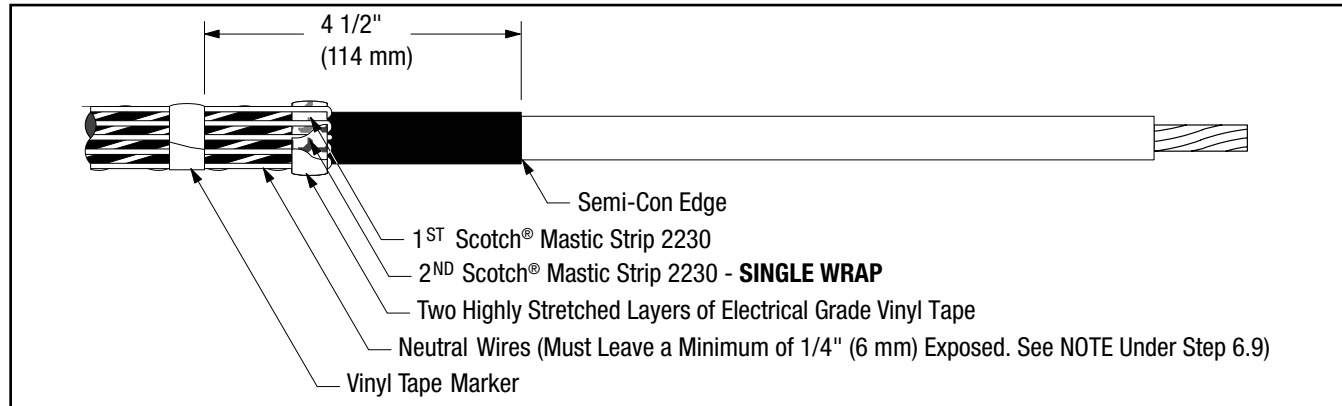

Figure 8
- 6.7 Bend neutral wires back over applied sealing mastic and secure to cable 4 1/2" (114 mm) from cable semi-con edge using vinyl tape (see NOTE and Figure 8).
- 6.8 Select second Scotch® Mastic Strip 2230 from kit and remove white release liners. Apply a second **SINGLE WRAP** of mastic over the neutral wires and previously applied mastic (Figure 8). Cut off excess.
- 6.9 Compress neutral wires into mastic by over-wrapping seal strips with two highly stretched layers of electrical grade vinyl tape (Figure 8). **Be sure to cover all exposed mastic.**